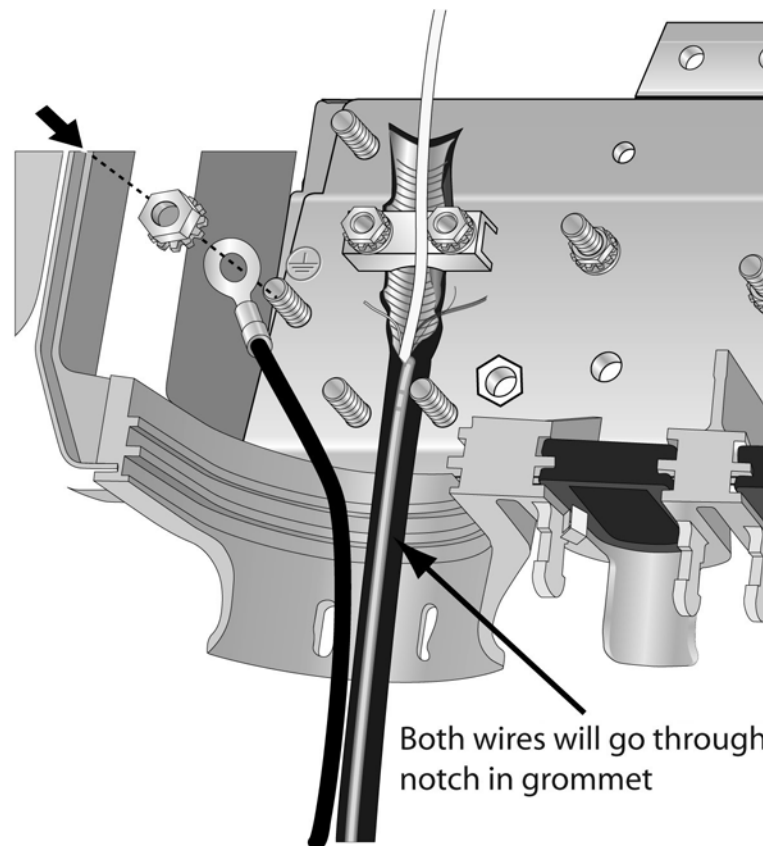

Figure 18. Lining Up the Ground Wire
3. Secure the ground wire ring lug on the ground wire post using the Kepnut, as shown in Figure 18.